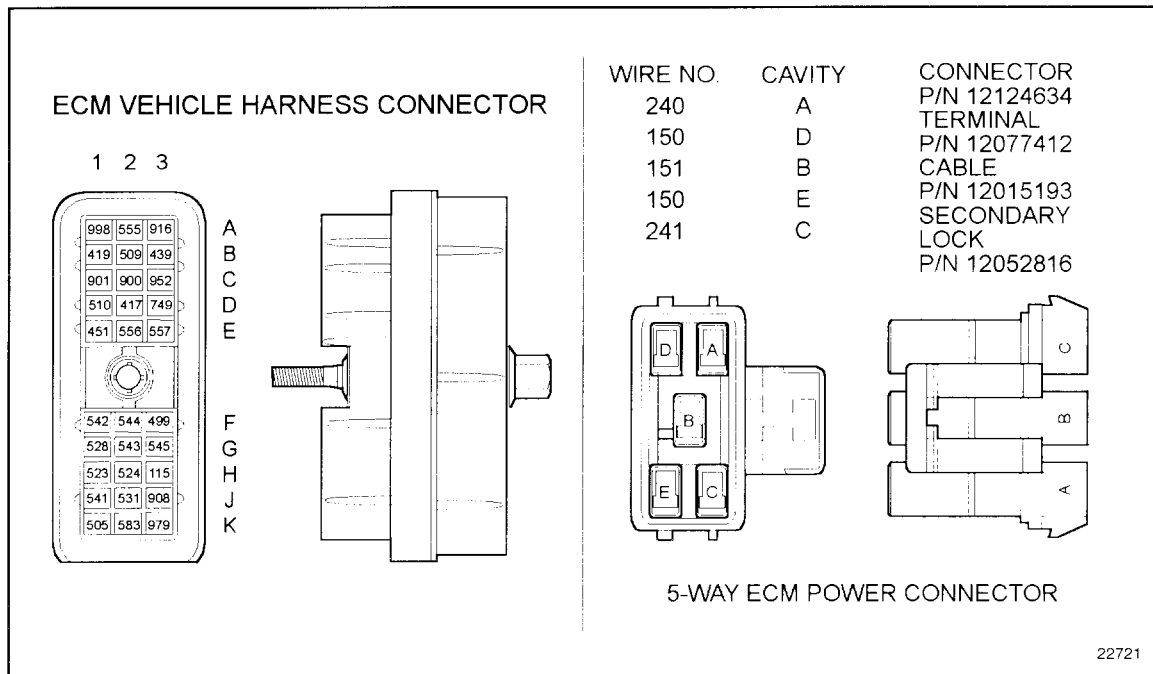

Figure 35-4 ECM Vehicle Harness Connector
2. Disconnect the vehicle harness and 5-way power connectors at the ECM. See Figure 35-4.